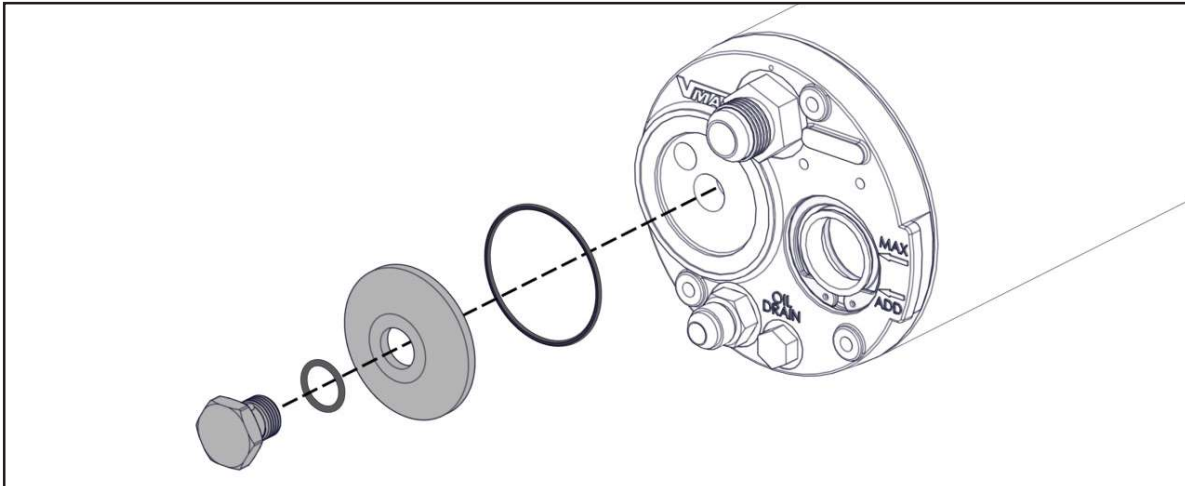

Figure 2 — Install O-rings and blanking plate
- Install the O-rings and blanking plate onto the AOST (Figure 2).